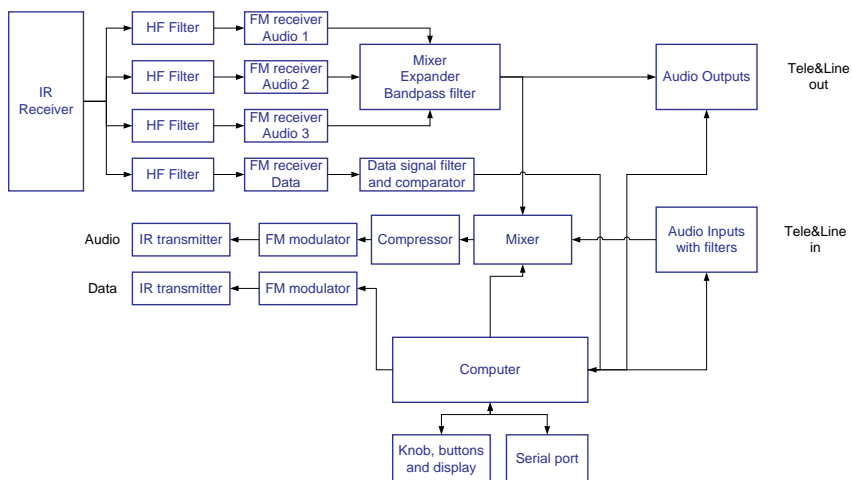

Figure 1.2 - Central Unit block diagram
Figure 1.2 shows a block diagram of the Central Unit (CU). The TU's sends the HF signal via cables down to the FM receivers where the signal is band-pass filtered and demodulated in four channels, Audio 1 to 3 and Data.